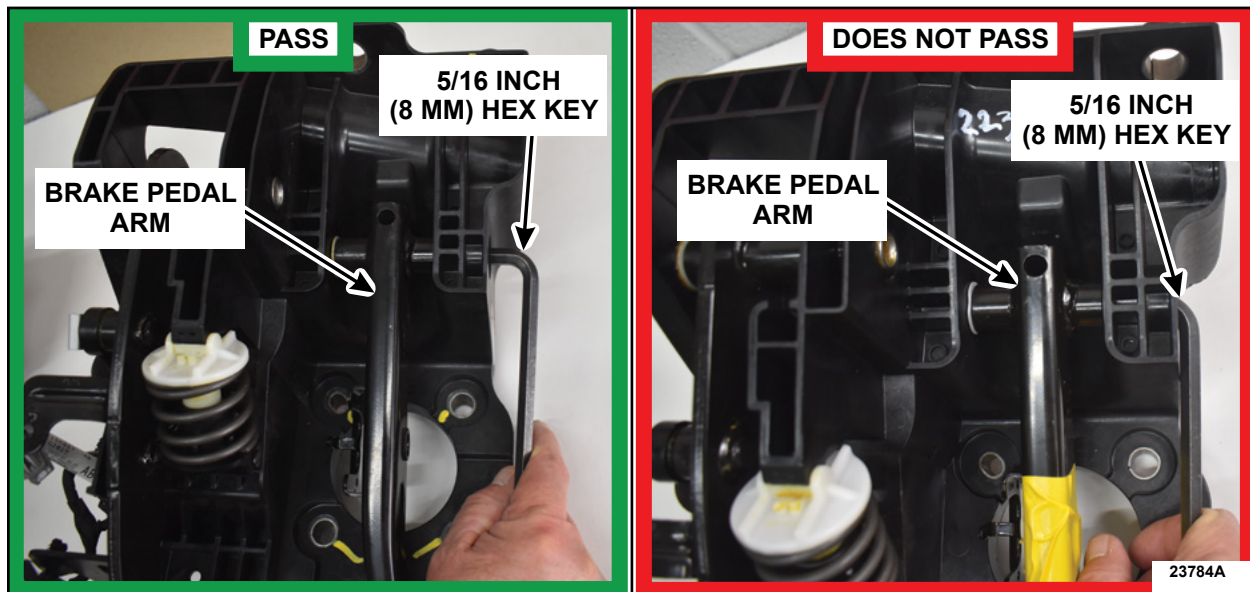

FIGURE 1
1. Using a standard length 5/16 (8 mm) Hex key, insert the short arm of the Hex key into the right hand (RH) side of the brake pedal pivot point on the bracket and apply pressure to check for pivot pin movement. If the pivot pin moves and allows the hex key to move inward, or the long part of the hex key touches the bracket assembly it **DOES NOT PASS** inspection. See Figure 1 and video links below.